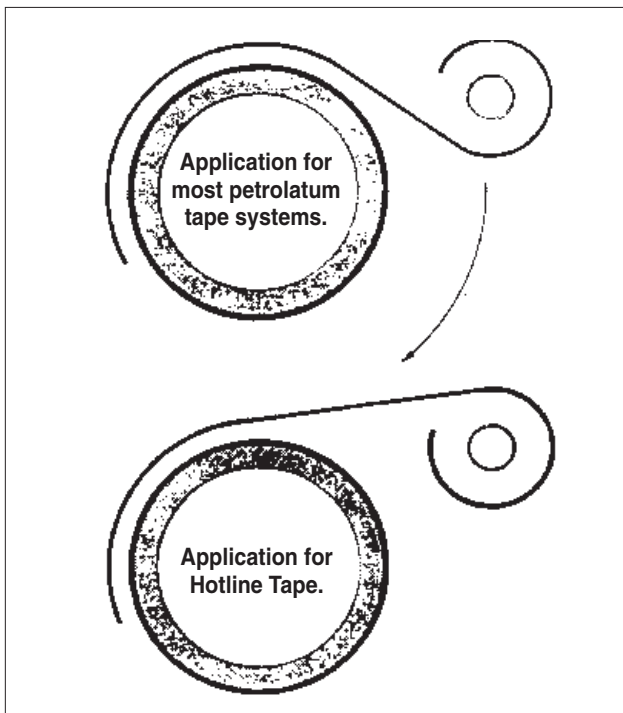

Figure 1 - When applying the Hotline Tape, WB Tape and Marine Piling Tape, the tape should be applied sticky side down with the clear film on the outside.
- 7.3 Hold end of tape firmly against the starting point and firmly press on the surface. Unroll the tape, keeping the roll close to the surface. Do not get a long lead of tape as it will tend to fold and gap on the surface being wrapped. The tape is best applied by rolling it around the pipe and giving it proper tension (See Figure 1).